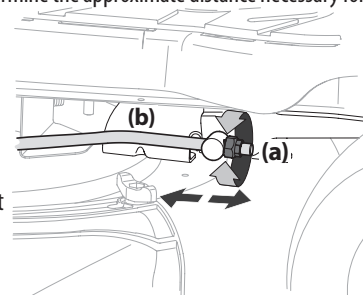

Figure 15
3. Locate the flange lock nut (a) on the front end of the PTO lift rod (b). See Figure 15.